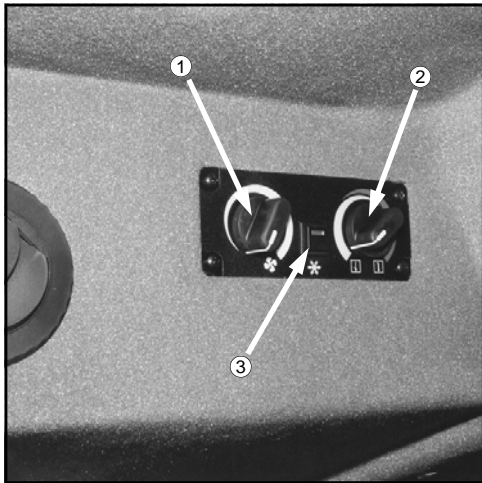

FIG 5.68
**ADJUSTING FAN BLOWER SPEED** - Fan blower speed is controlled by the left rotary dial on the cab climate control panel (fig. 5.68, item 1). The fan blower speed is a continuously variable adjustment. To increase fan speed, rotate fan blower dial clockwise. To reduce fan speed, rotate fan blower dial counterclockwise. To shut fan blower off, rotate fan blower dial all the way counterclockwise.
**ADJUSTING TEMPERATURE SETTING** - Forced air temperature adjustments are controlled by the right rotary dial on the cab climate control panel (fig. 5.68, item 2). Temperature control is a continuously variable adjustment. To increase forced air temperature, rotate temperature dial clockwise. To decrease forced air temperature, rotate temperature dial counterclockwise.
**OPERATING AIR CONDITIONING** - To activate the air conditioner, depress the air conditioning switch (fig. 5.68, item 3). Adjust fan speed and temperature accordingly.